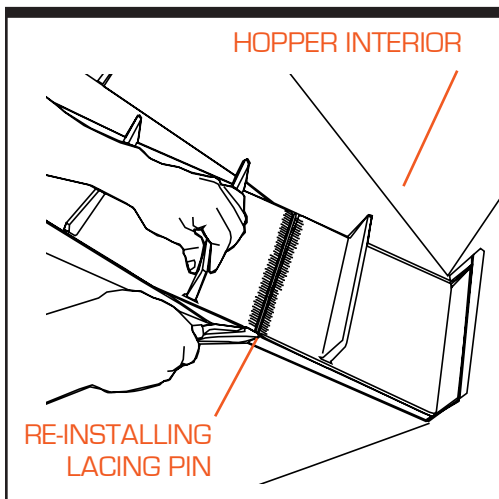

Figure 3-13. Re-Installing Lacing Pin
Step 2—Install Belt. Install the belt by feeding it through the prefeeder's hopper (downward), up the underside of the elevator channel, through the head, and back down the elevator channel into the hopper, cleats facing up. The belt lacings on both ends of the belt, should meet in the hopper area of the prefeeder (see Figure 3-13). You may need to remove the elevator covers (underside of the prefeeder channel) to feed the belt. Once the belt is completely fed into the prefeeder, and the lacing pin installed, replace the elevator covers.